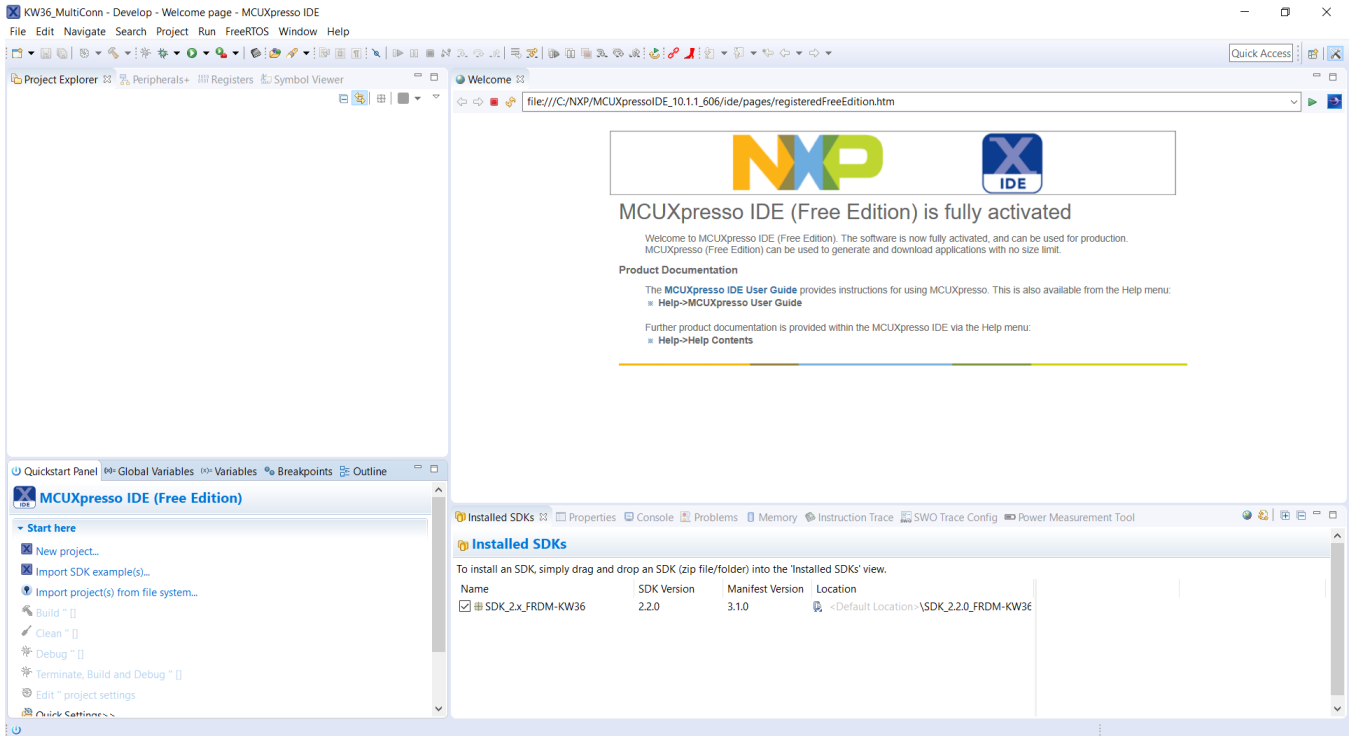

Figure 3. MCUXpresso IDE main screen
5. Once installed, MCUXpresso IDE looks as Figure 3: